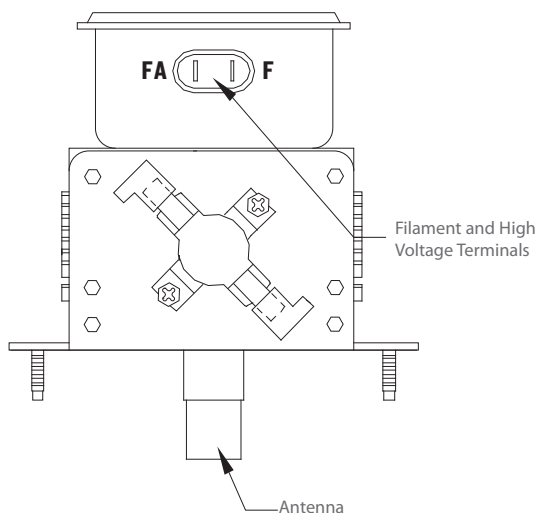

Figure 33: Magnetron
Figure 33. Magnetrons supply the RF energy at 2.45 GHz and begin to oscillate when they are supplied with approximately 4.1 kVDC at approximately .350 mA. During operation, each magnetron will output a nominal 1 kW of power.
2. Isolate the magnetron from the circuit by removing the wires from the F and FA terminals. Figure 33.
3. An ohmmeter connected between the filament terminals (F, FA) should indicate a reading of less than 1 ohm. Figure 33.